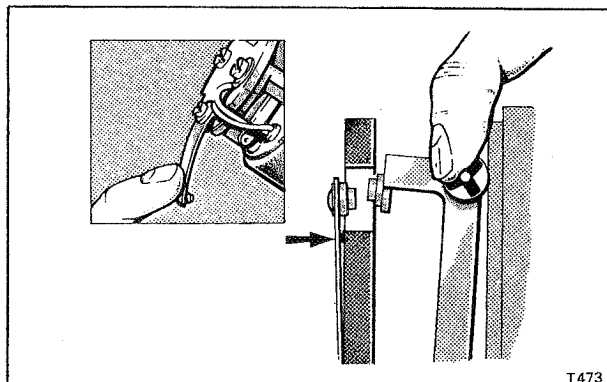

Fig. K28 Contact blade resting on pedestal ridge
34. Check that when the outer rocker is pressed onto the coil housing, the contact blade rests on the narrow ridge that projects slightly above the main face of the pedestal (see Fig. K28). If the contact blade does not rest on the ridge, slacken the attachment screw, swing the blade clear of the pedestal and bend it downwards sufficiently to ensure that it will rest lightly against the ridge when secured in position again.